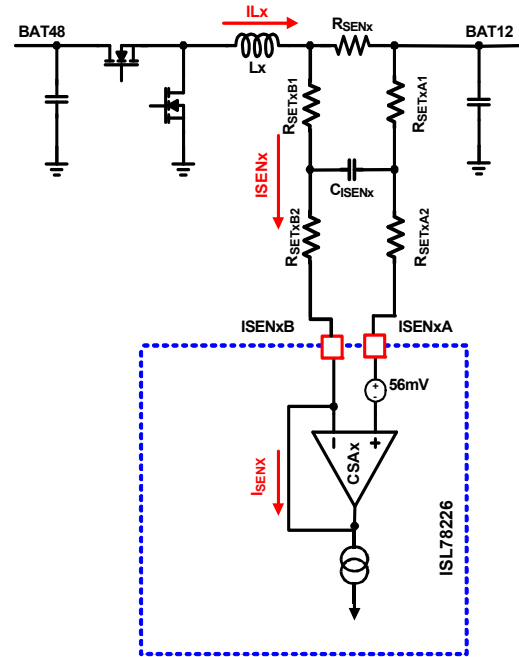

FIGURE 135. CURRENT-SENSING BLOCK DIAGRAM FOR INDIVIDUAL PHASE I_{SENx}
The ISL78226 peak current control architecture senses the inductor current of each phase continuously for fast response. A sense resistor (shunt) is placed in-series with the power inductor for each phase. The ISL78226 Current-Sense Amplifiers (CSA) continuously sense the respective inductor current (as shown in Figure 135) by sensing the voltage signal across the sense resistor R_{SENx} (where "x" indicates the specific phase number and same note applied throughout this document). The sensed current for each active phase will be used for peak current mode control loop, phase current balance, individual phase cycle-by-cycle peak current limiting (OC1), individual phase overcurrent fault protection (OC2), averaged Constant Current Limit (CCL) control, Average Overcurrent Protection (AOCP), Diode Emulation (DE), and Phase Drop/Add control. The internal circuitry shown in Figure 135 represents a single phase and is repeated for each phase.
The RC network between R_{SENx} and ISENxA/ISENB pins as shown in Figure 135 is the recommended configuration. The current gain setting resistor, R_{SETxB} , is R_{SETxB1} plus R_{SETxB2} in Figure 135 and that sum should be fixed at 1k Ω .
It is also recommended to have $R_{SETxA} = R_{SETxB}$ and all four resistors as equal in value as standard values allow. Insert a capacitor, C_{ISENx} , between them as shown in Figure 135. This will form a symmetric noise filter for the small current-sense signals. The differential filtering time constant equals $(R_{SETxA1} + R_{BIASxB1}) * C_{ISENx}$. This time constant is typically selected in the range of tens of ns depending on the actual noise levels.